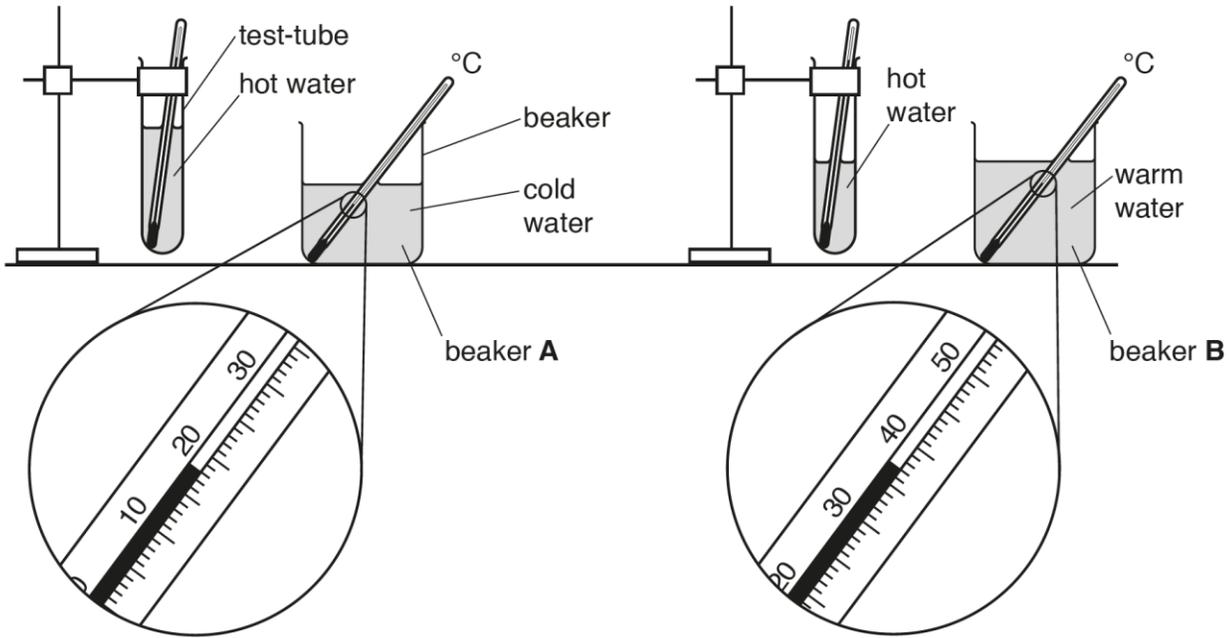

Fig. 1.1
They are using the apparatus shown in Fig. 1.1.
(a) Using Fig. 1.1
- (e) Suggest **one** change to the experiment shown in Fig. 1.1 to ensure that the comparison of the effect of surrounding temperature on cooling is a fair test.